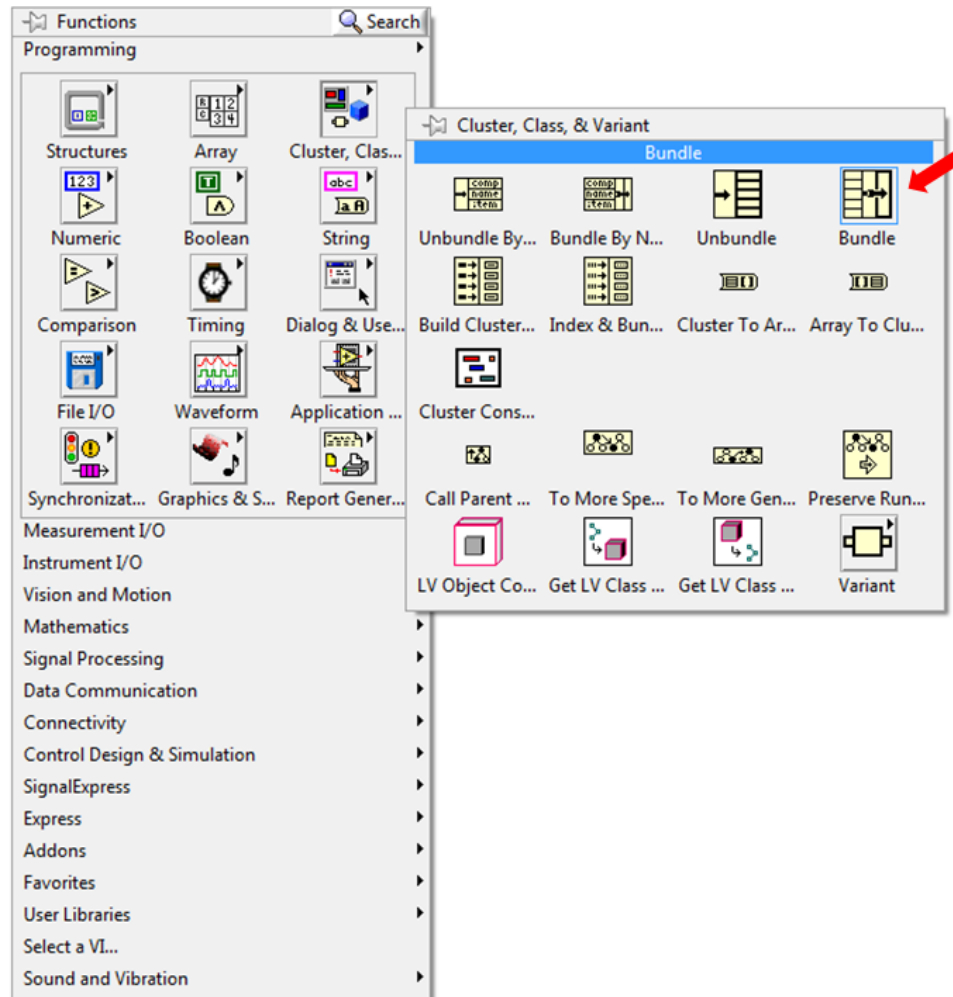

Figure 42. Use the Bundle function to combine the elements you need to create the graph.
23. To build the graph, you will need to bundle the values into a cluster (a cluster is a way to group elements of differing data types, which is out of the scope of this lesson, but is thoroughly covered in the on-demand training). Right click on the Block Diagram and select **Programming»Cluster, Class & Variant»Bundle**, like in Figure 42.